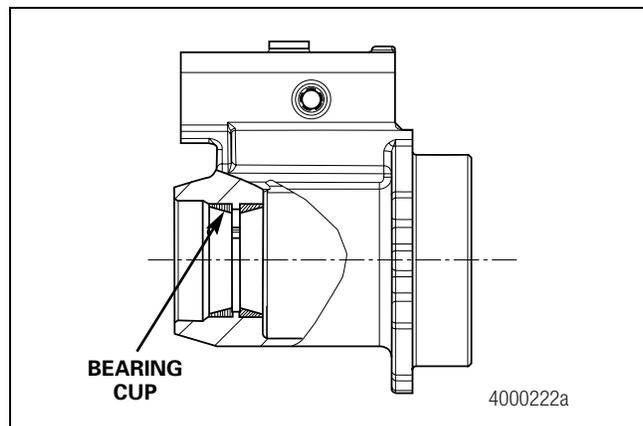

Figure 7.8
- A. Install the bearing cups into the PTO bearing cage housing. This is an interference fit. Freeze the bearing to  $-65^{\circ}\text{F}$  ( $-54^{\circ}\text{C}$ ) and position the two cups into the housing bores. Figure 7.8.